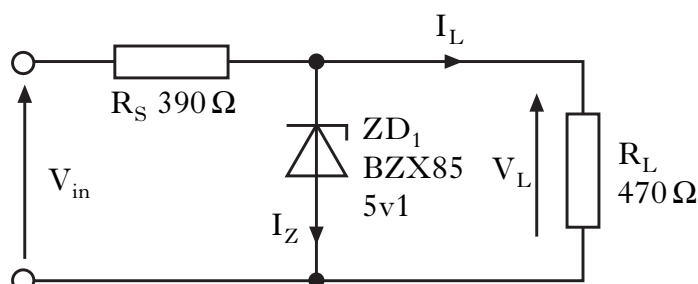

Figure Q5
5. With reference to Figure Q5 and the data sheets provided, determine: